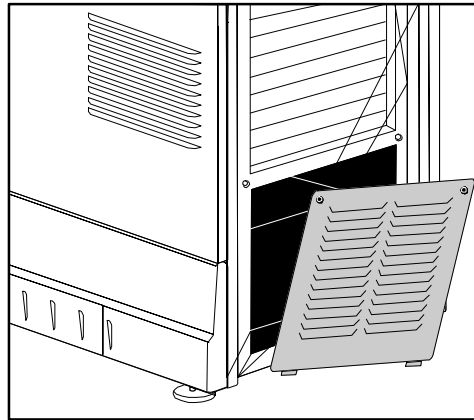

**Figure 2-29 Adjust 4 Feet for Tilt and Leveling**
Check with theatre personnel for the degree of screen tilt or measure this incline with a protractor at the screen. Then **TILT** the projector to closely match this screen tilt angle (**Figure 2-29**), following the instructions below:
8. If necessary, re-adjust all leveling feet for side-to-side leveling (**Figure 2-29**). Note that you may have to adjust level more precisely once an image is present.